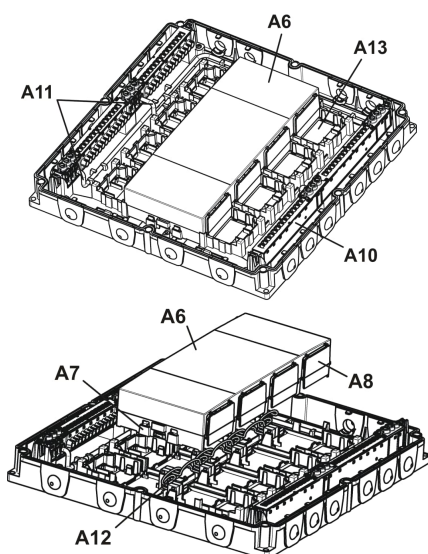

figure 3: Mounting / Dismounting the SELV (class 2) cover
- Dismounting an RS module (Figure 3-b):
- Mounting of an RL module (Figure 3-c):
- Dismounting an RL module (Bild 3-d):